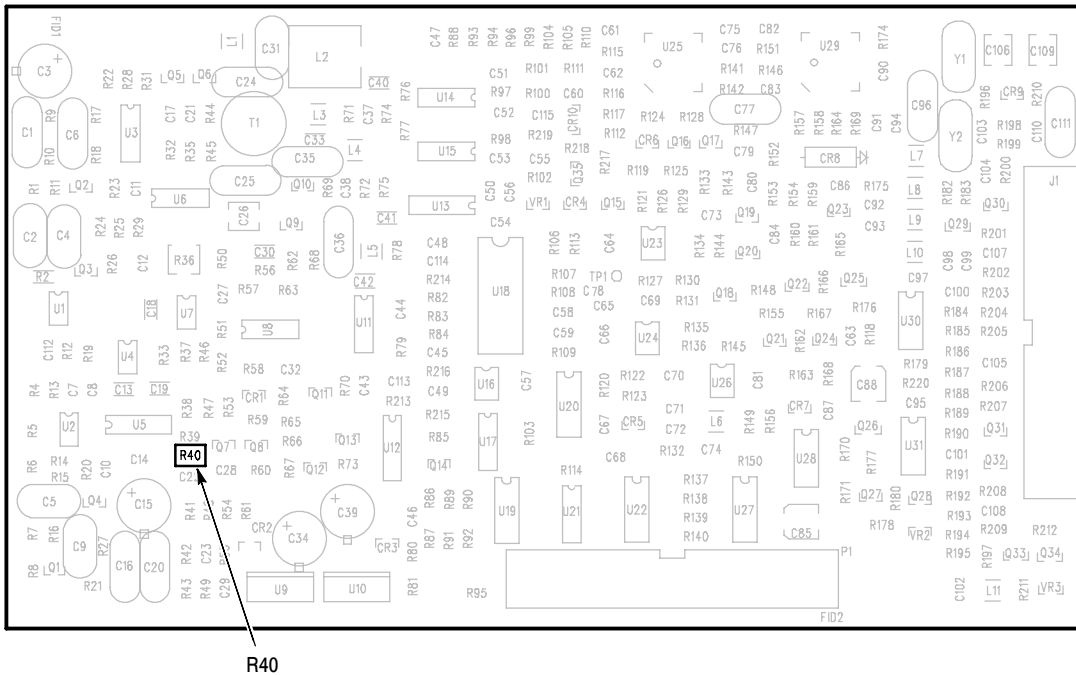

**Figure 3: Removing the Vector board**
- 3. Remove the three T-15 screws holding the circuit board in place. See Figure 3.